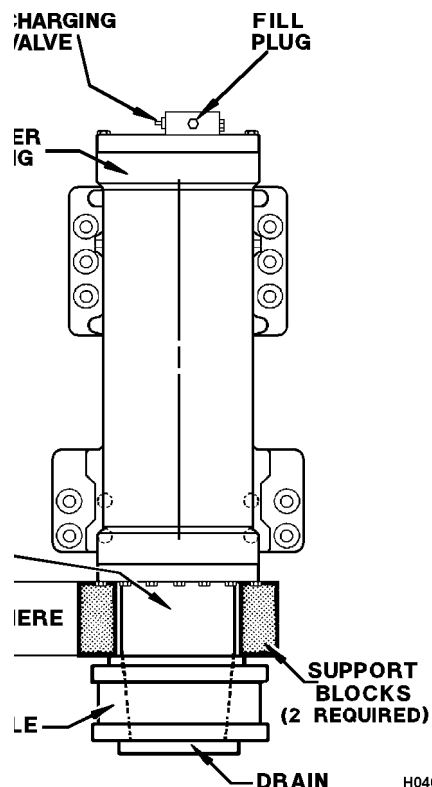
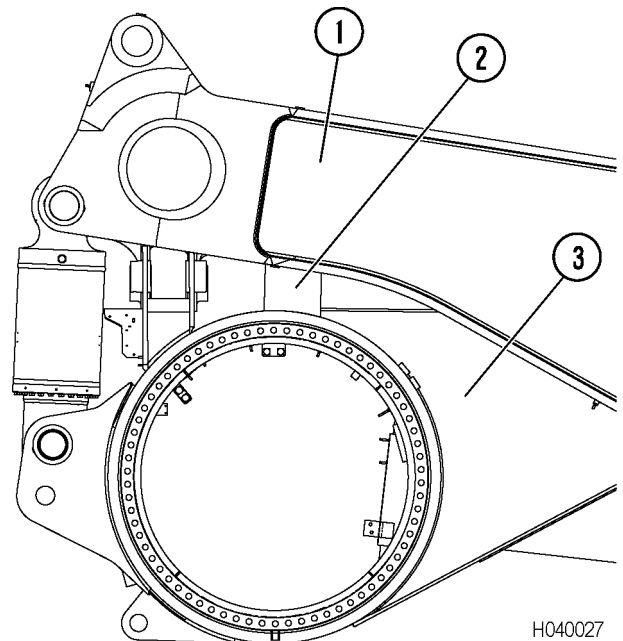

FIGURE 4-2. FRONT SUSPENSION
FIGURE 4-4. OILING BLOCK INSTALLATION
Exposed piston rod extensions are specified for both oil level and nitrogen charging for Hydrair II suspensions. These dimensions are listed in the tables below Figures 4-2 and 4-5. Measure the dimensions from the face of the cylinder gland to the machined surface on the spindle at the front suspension. At the rear suspension, measure from the face of the cylinder gland to the piston flange.
Support blocks may be made in various forms. Mild steel materials are recommended. Square stock or pipe segments at least 25 mm (1 in.) may be used. The blocks must be capable of supporting the weight of the truck during oiling and charging procedures while avoiding contact with plated surfaces and seals on the suspension. Refer to Figure 4-2 for front suspension support block placement and Figure 4-4 for rear support block placement.
1. Position and secure oiling height dimension blocks 180° apart to provide stability (see Figure 4-2). When nitrogen pressure is released, the suspensions will lower and rest on the blocks. Ensure that the blocks do not mar or scratch the plated surfaces of the pistons or damage wiper seals in the lower bearing retainer. Support blocks must seat on the spindle and the cylinder housing.
4. Remove the top fill plug next to the charging valve (see Figure 4-2).
7. To lower the truck onto the charging blocks, open inlet valve (4) until the pressure drops below the pressure listed in the table below Figure 4-2, then close the valve.
8. Install the center hose to manifold (6).
9. Charge the suspensions to the pressure listed in Figure 4-2. DO NOT use an overcharge of nitrogen to lift the suspensions off the charging blocks.
1. Position and secure the oiling blocks in place so the blocks are seated between the frame and the rear axle housing (see Figure 4-4). A block should be used on both the left and right sides of the truck.